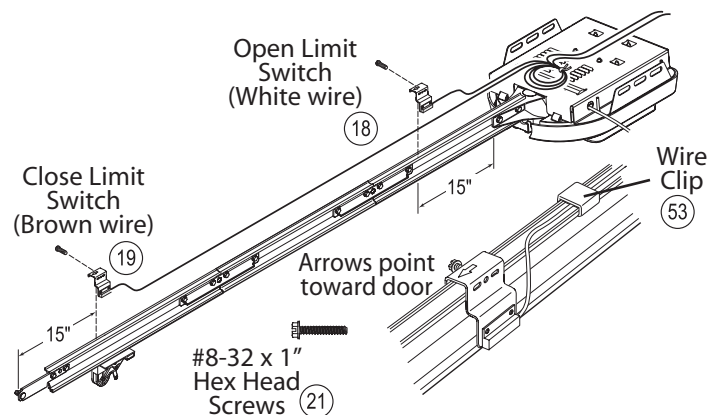

Figure 14 Install Limit Switches on Assembled Rail
- C** Place Switches on Rail with arrows pointing away from Power Head (**Figure 14**).
- F** Lay Wires in channel on top of Rail and secure with Wire Clips (**Figure 14**).
- G** Coil and bundle excess Limit Switch Wires on top of Power Head with Twist Ties. Leave just enough Wire to reach Terminals on back of Power Head (**Figure 14**).